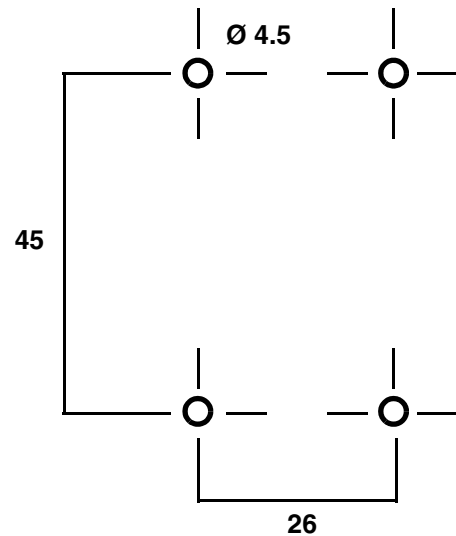

Figure 3: Dimensions for pre-drilling holes
1. See Figure 3 (dimensions are in millimeters).